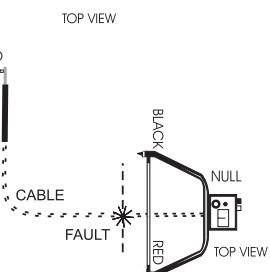

Figure 5. Nulling Receiver - Second Time
*Note: Receiver will null when probes evenly straddle the fault. Mark this spot. (See Figure 5.)*